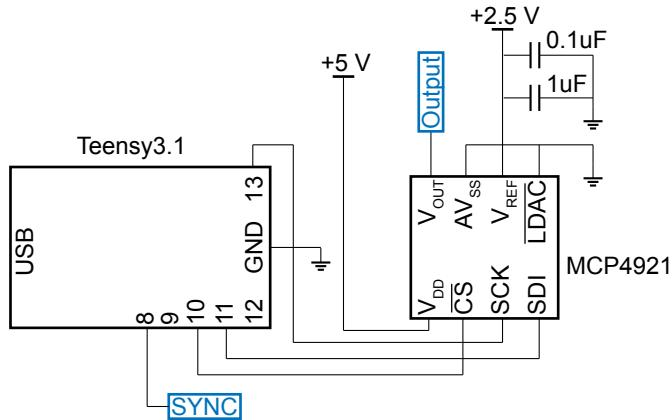

Figure 13: Schematic of the connection between Arduino UNO and the MCP4921.
1. Using Fig. 13 as a reference, connect the Teensy to the MCP4921 DAC. Connect the MCP4921's VDD pin to the output of the LM317 regulator (5 V). Connect the MCP4921's VREF pin to the LT1009 reference's output (2.5 V). Connect both AVSS and  $\overline{LDAC}$  of the MCP4921 to ground. A  $0.1\ \mu F$  and a  $1\ \mu F$  capacitor could be used at VREF to minimize noise at the reference. It is very important to keep your circuit (ICs, resistors, capacitors, wires, etc) organized. Use as short of a wire as possible between two connection points. Refer to Fig. ?? for an example layout.